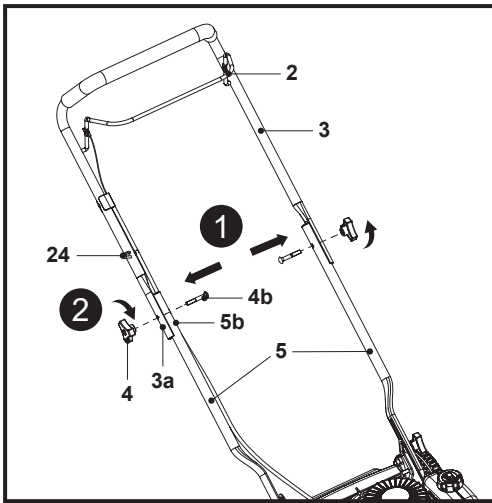
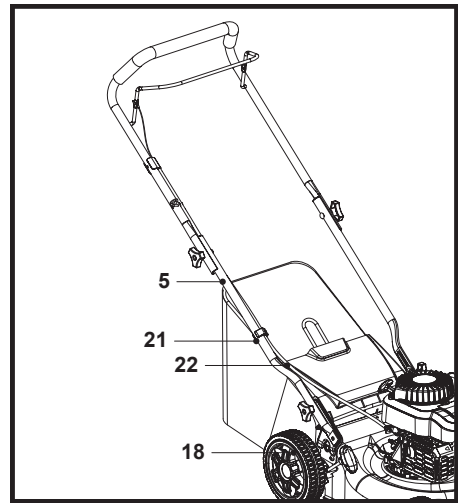

Fig. 2
Fig. 3
1. Align the mounting holes of the upper handle bar (3) and the lower handle bars (5). Ensure that the upper handle bar (3) with the brake lever (2) facing upwards.
2. Pass one mounting bolt (M8 x 43) (4b) through the mounting holes (3a, 5b) of the lower handle bar (5) and the upper handle bar (3) until the stop, then attach the lock knob (4) (Fig. 2, step 1).
3. Secure the handle assembly by screwing in the lock knob (4) clockwise on the thread of the mounting bolt (M8 x 43) (4b) (Fig. 2, step 2).
4. Repeat the above steps on the other side of upper handle bar (3).
5. Make sure that the pre-assembled hook for recoil start handle (24) rest on your right-hand side (when viewed from operator's position).
6. Attach the brake wire (22) with the wire clip (21) on the right-hand side of the lower handle bar (5) (when viewed from operator's position) (Fig. 3).